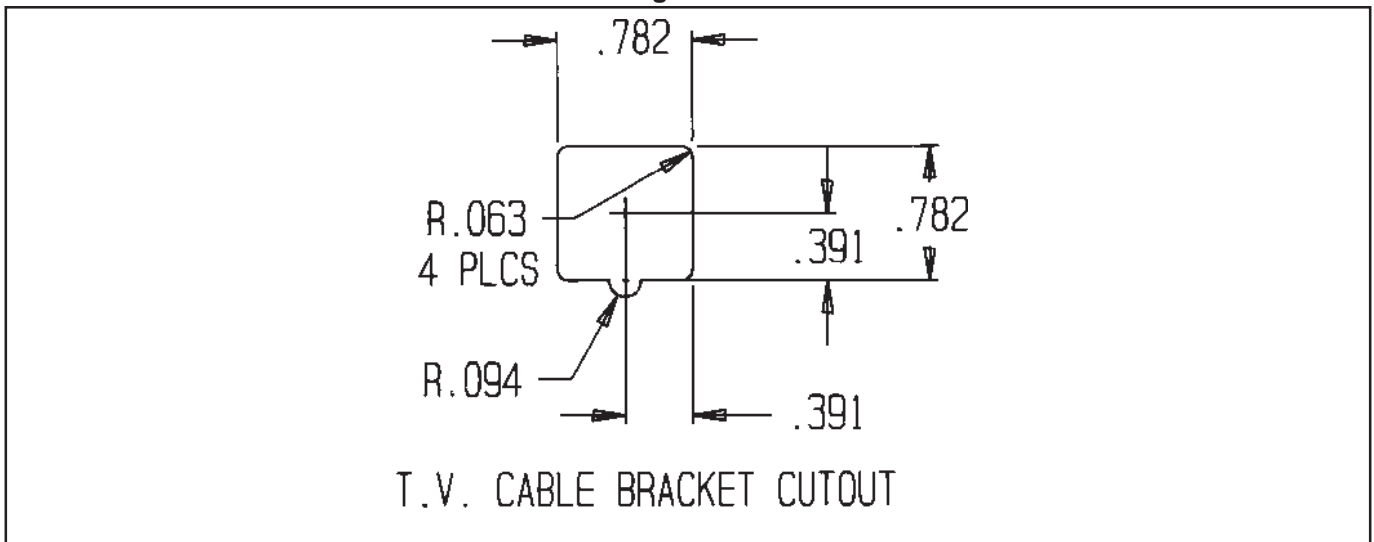

Figure 18
STEP 4. Fabricate T.V. cable bracket using 0.090 - 0.125 in. sheet metal (See Figure 18) for the adjuster housing cutout dimensions. If you use the thicker stock a chamfer will be required on two sides of the cable mounting cutout to allow the lock tabs to expand properly. The T.V. cable adjuster requires a pull of about 18 lbs. to ratchet out, so try to make the mounting bracket as rigid as possible. If the mounting bracket flexes the T.V. pressure will not be consistent.